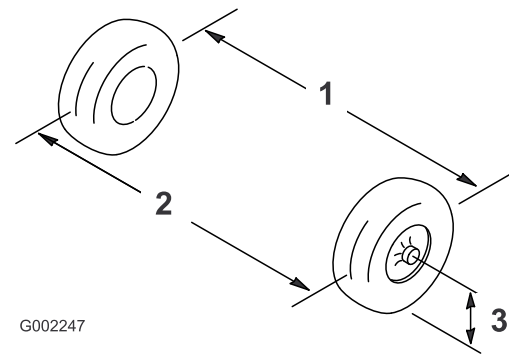

Figure 98
2. Measure the distance between of the front tires at the axle height at the front and rear of the front tires (Figure 98).